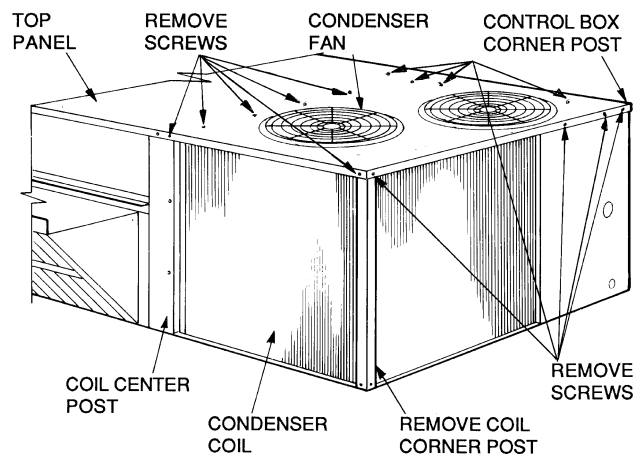
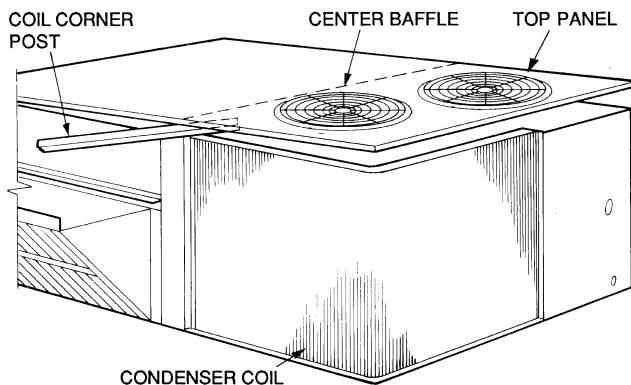

Fig. 50 — Cleaning Condenser Coil
Fig. 51 — Propping Up Top Panel
3. Remove condenser coil corner post. See Fig. 50. To hold top panel open, place coil corner post between top panel and center post. See Fig. 51.